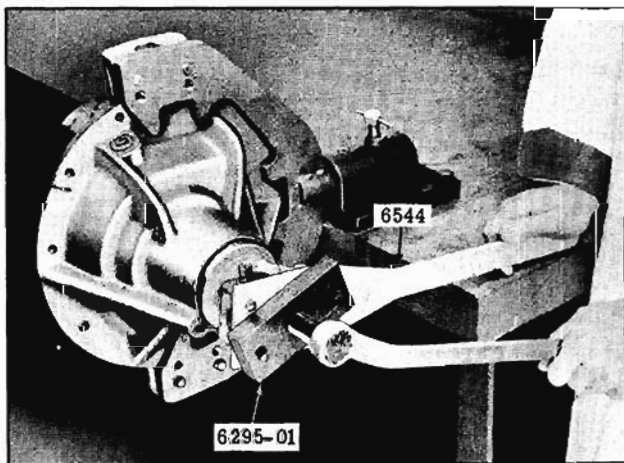

Fig. 10-22 Removing Companion Flange
4. Using Companion Flange Puller J-6295-01 and Holding Tool J-6544, remove companion flange. (Fig. 10-22)